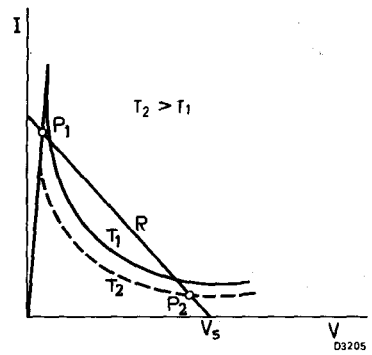

Fig. 7
- (2) the ambient temperature increases (figure 7)